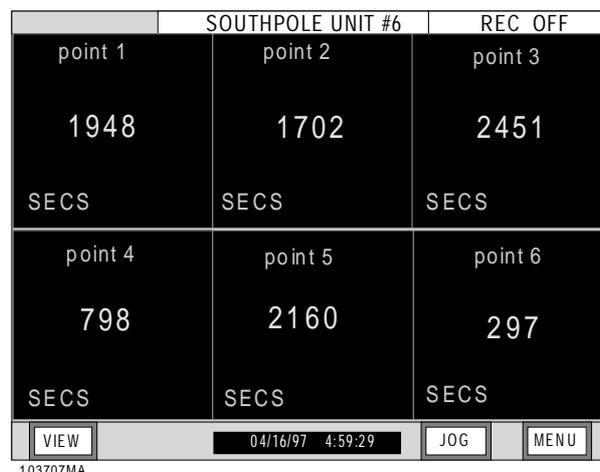
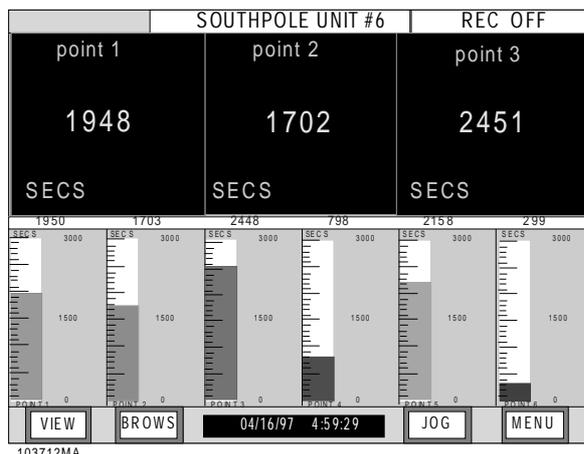
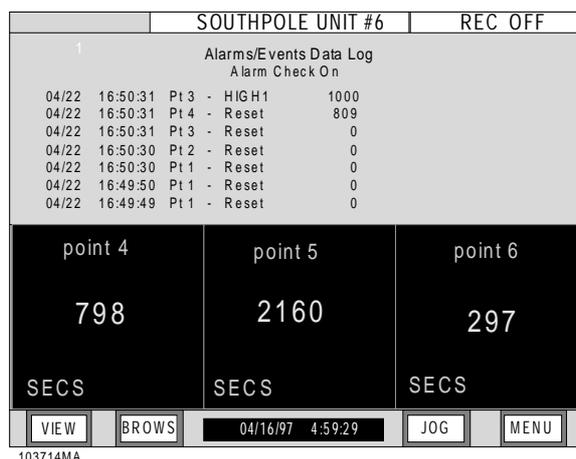

Figure 3-11 Digital Blocks View
Figure 3-15 Digital Blocks On Top and Vertical Bargraphs On Bottom View
Figure 3-17 Alarm/Events Data Log On Top and Digital Blocks On Bottom View
4. Digital Blocks View - In this view, digital blocks are shown for each point. Digital Windows can be displayed on their own or as part of a split screen. Up to six can be displayed at a time. The assignment of points to digital windows is made in the "PROGram - Display - Digital assign" menu (Chapter 4). The format of the digital window is shown in Figure 3-11. The large numbers in the center of the window are the real time point value. Above this point value is the Point Tag shown as POINT XX. This is a ten character description of the point. Below the point value is the Engineering Units shown as SECS. There can be a maximum of five characters. The Engineering Units, Point Tag, and scaling of the digital value is done in the "PROGram - Points" menu (Section 4).
8. Digital Blocks On Top and Vertical Bargraphs On Bottom View - The next view, when scrolling through the views, is a split screen showing all of the attributes of Figures 3-11 and 3-13. Only three of the Digital Blocks are shown (the first three in this case). This view is shown in Figure 3-15.
10. Alarm/Events Data Log On Top and Digital Blocks On Bottom View - The next view, when scrolling through the views, is a split screen showing all of the attributes of Figures 3-11 and 3-12. This view is shown in Figure 3-17.